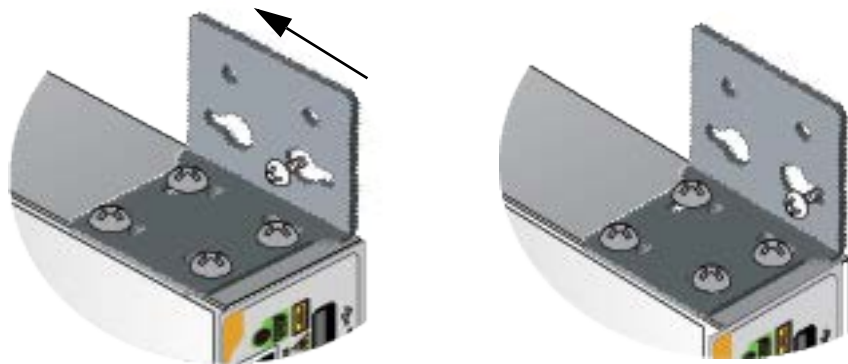

Figure 45. Sliding the Key-hole Slot under the Screw Head
3. Install the brackets on the screws by sliding the key-hole slots under the screw heads. See Figure 45.